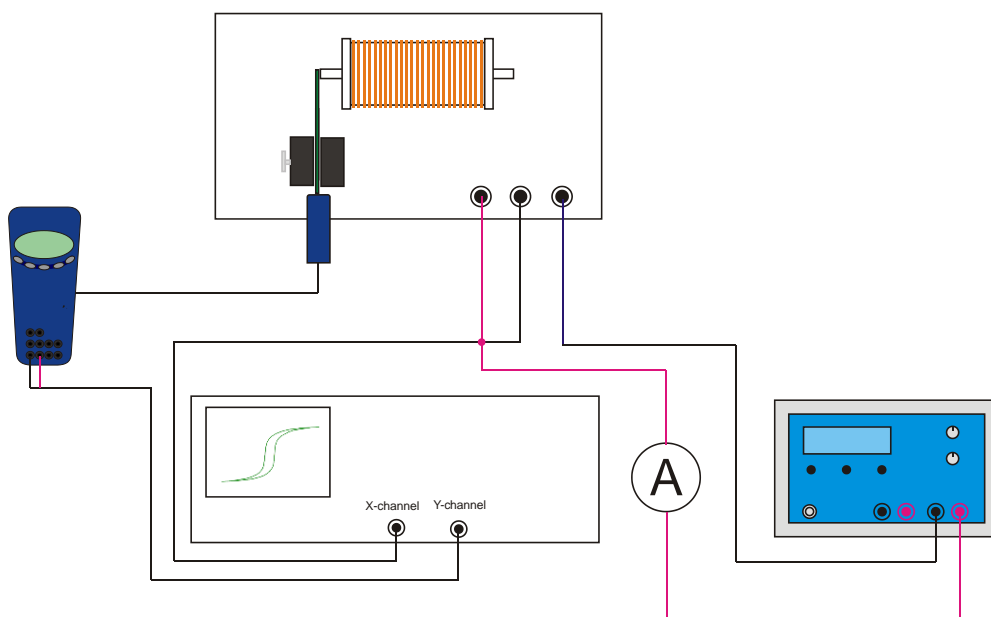

Fig. 2: Experiment set-up with 3B Net/log™
- Connect up the function generator, coil, ammeter, teslameter or 3B Net/log and oscilloscope as shown in Fig. 1 and Fig. 2.